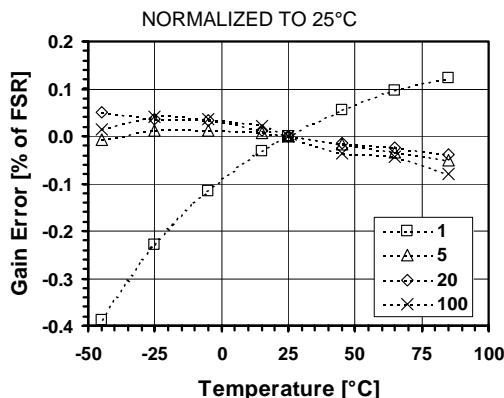

Figure 17-19. Gain error vs. temperature for different PGA gains
- (7) Resolution is given by $n = 2 \cdot \log_2(OSR) + \log_2(N_{ELCONV})$. OSR can be set between 8 and 1024, in powers of 2. N_{ELCONV} can be set to 1, 2, 4 or 8.
- (8) If a ramp signal is applied to the input, all digital codes appear in the resulting ADC output data.
- (9) Gain error is defined as the amount of deviation between the ideal (theoretical) transfer function and the measured transfer function (with the offset error removed). (See Figure 17-19)
- (10) Offset error is defined as the output code error for a zero volt input (ideally, output code = 0). For ± 1 LSB offset, N_{ELCONV} must be ≥ 2 .
- (11) INL defined as the deviation of the DC transfer curve of each individual code from the best-fit straight line. This specification holds over the full scale.
- (12) DNL is defined as the difference (in LSB) between the ideal (1 LSB) and measured code transitions for successive codes.
- (13) Figures for Gains = 1 to 100. PSRR is defined as the amount of change in the ADC output value as the power supply voltage changes.
- (14) Conversion time is given by: $T_{CONV} = (N_{ELCONV} \cdot (OSR + 1) + 1) / f_s$. OSR can be set between 8 and 1024, in powers of 2. N_{ELCONV} can be set to 1, 2, 4 or 8.
- (15) PGAs are reset after each writing operation to registers RegAcCf1-5. The ADC must be started after a PGA or inputs common-mode stabilisation delay. This is done by writing bit `START` several cycles after PGA settings modification or channel switching. Delay between PGA start or input channel switching and ADC start should be equivalent to OSR (between 8 and 1024) number of cycles. This delay does not apply to conversions made without the PGAs.
- (16) Nominal (maximum) bias currents in PGAs and ADC, i.e. $IB_AMP_PGA[1:0] = '11'$ and $IB_AMP_ADC[1:0] = '11'$.
- (17) Bias currents in PGAs and ADC set to 3/4 of nominal values, i.e. $IB_AMP_PGA[1:0] = '10'$, $IB_AMP_ADC[1:0] = '10'$.
- (18) Bias currents in PGAs and ADC set to 1/2 of nominal values, i.e. $IB_AMP_PGA[1:0] = '01'$, $IB_AMP_ADC[1:0] = '01'$.
- (19) Bias currents in PGAs and ADC set to 1/4 of nominal values, i.e. $IB_AMP_PGA[1:0] = '00'$, $IB_AMP_ADC[1:0] = '00'$.
Figure 17-19 shows gain error drift vs. temperature for different PGA gains. The curves are expressed in % of Full-Scale Range (FSR) normalized to 25°C.